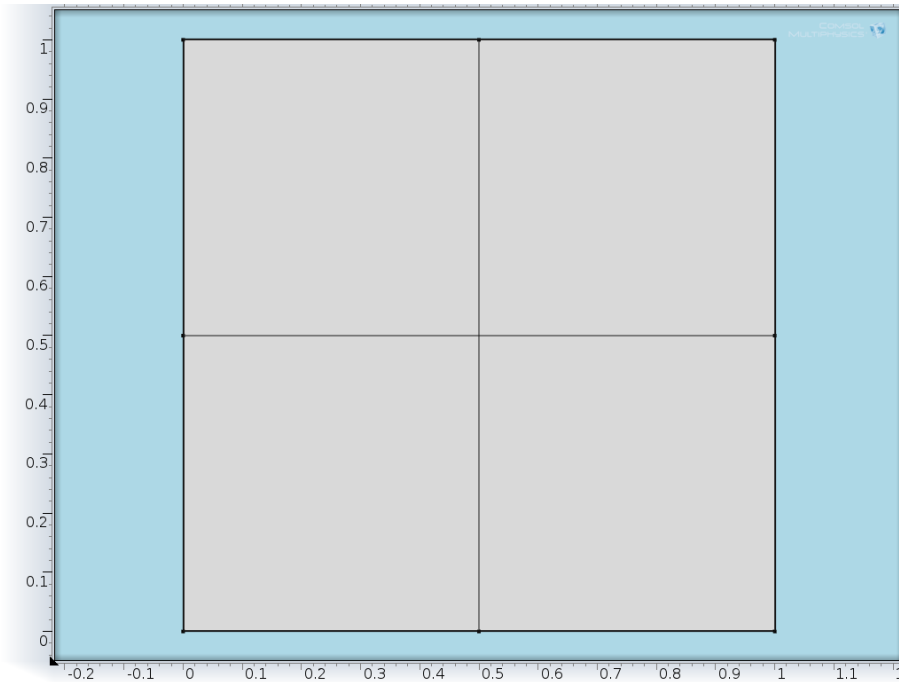

Figure 22: 2-by-2 mesh.
- 4 Mesh the same square with 4 equilateral elements according to Fig. 22. Plot the mesh as the element quality plot.